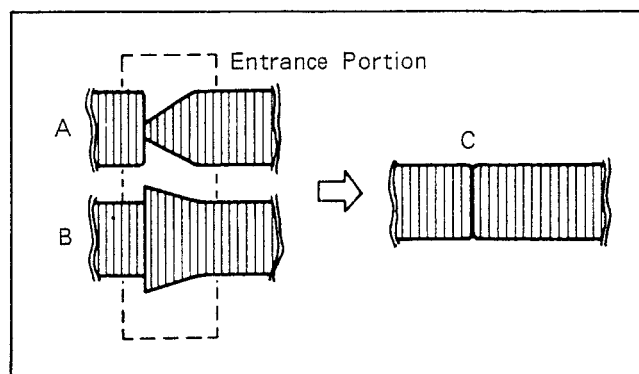
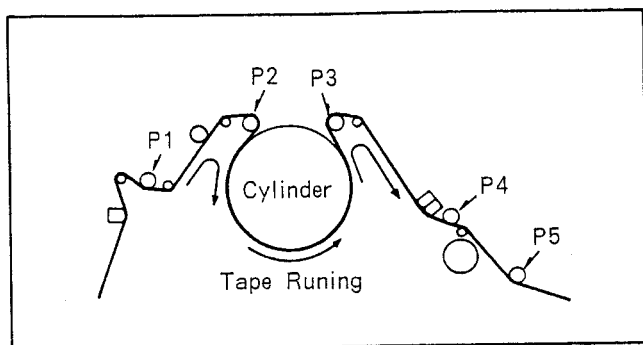

Fig. M9
Fig. M12 Loading of post
4. If the RF envelope appears like example "A" or "B" in Fig. M9, then adjustment of tape guide post (P2 : Entrance) is necessary.
5. Adjust the tape guide post (P2) with the post adjustment screwdriver so that the RF envelope waveform at the entrance portion becomes flat as shown "C" in Fig. M9. (See Fig. M12 also)